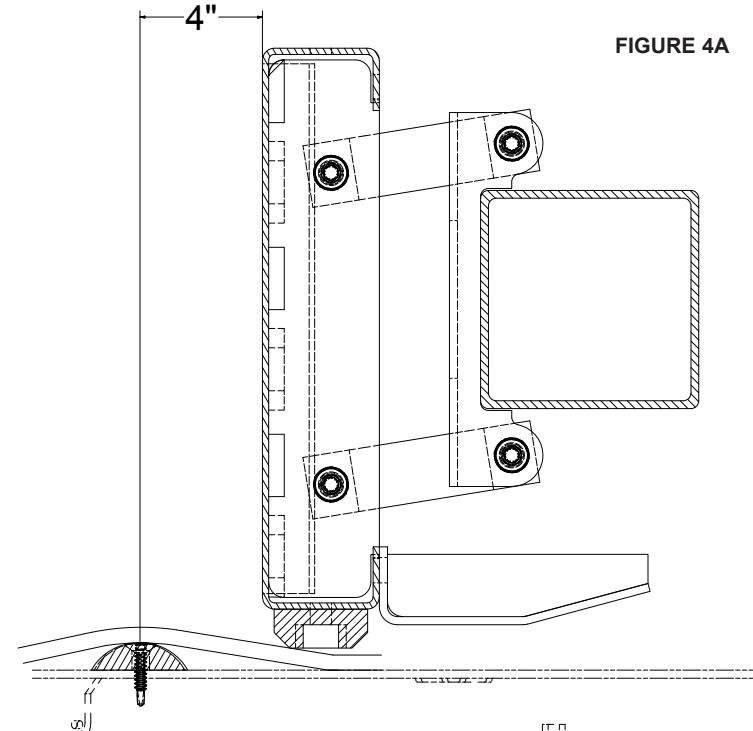

FIGURE 4A
7. Install half-oval lifting bar. Life bar shipped loose. (See Figure 4A).